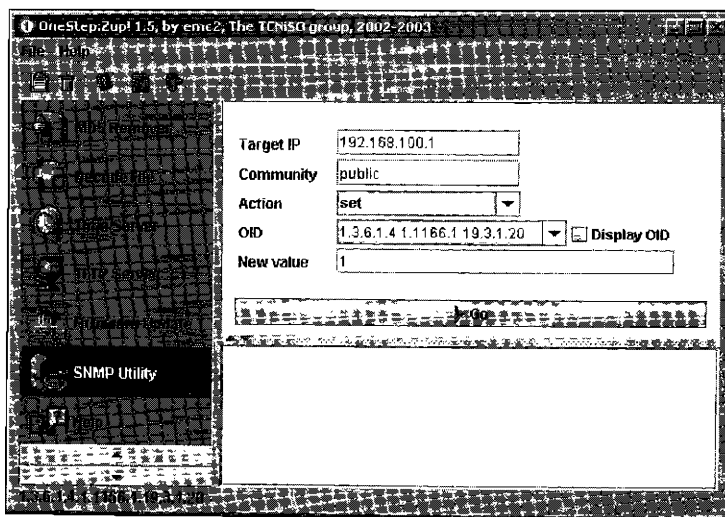

Figure 12-6: The SNMP agent in OneStep
Simple Network Management Protocol (SNMP) is used to control and monitor Internet-ready devices, such as cable modems. Devices that are to be monitored and controlled by SNMP run a compatible daemon (the server), and users who want to control the device communicate with it using SNMP agent software (see Figure 12-6). The SNMP server uses a password-like feature called a *community string* for security. Only requests that contain this specific string are executed; all other requests are ignored.
To enable hybrid mode using an SNMP agent (like the one included in OneStep), change the `cmHybridMode` OID (1.3.6.1.4.1.1166.1.19.3.1.20) to true (1). To disable hybrid mode, or change the modem back to its original settings, set this value to false (2). Figure 12-6 shows how to enable hybrid mode in OneStep (www.tcniso.net/Nav/Software). If you receive a time-out error from your SNMP agent utility, then you are either using the wrong community string, or the SNMP server on the modem is disabled, or you are not properly connected to the modem.